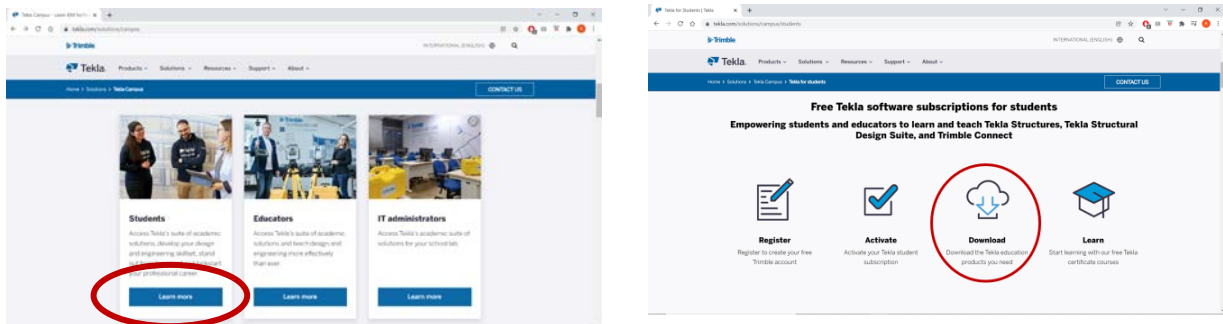
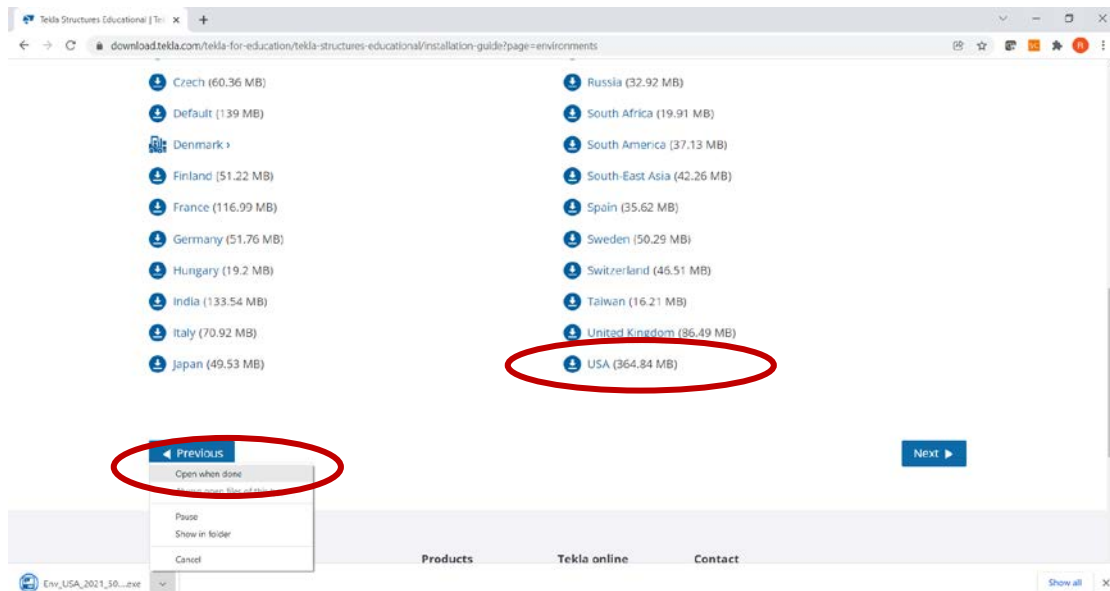

FIGURE 1. NAVIGATING TO THE TEKLA STRUCTURES DOWNLOAD PAGE
FIGURE 2. INSTRUCTIONS FOR TEKLA ENVIRONMENT AND SET-UP
Tekla Campus provides access to educational software for students and educators. Go to <https://campus.tekla.com/> and scroll down to “Students” and click “Learn more” to get to the page with the free Tekla software subscriptions for students; click “Download” (Figure 1). Follow the instructions to register, activate your free account, and download Tekla Structures. The latest version (2021) and service pack (5) should work with the Integrated Design Project model; the video modules use the 2020 version. You will also need to download an additional environments; select and download the “USA” environment, choose “Open when done” (Figure 2). Start Tekla Structures, select the “US” Environment, select “Imperial Engineering” for your Role, and select the “Educational” configuration.